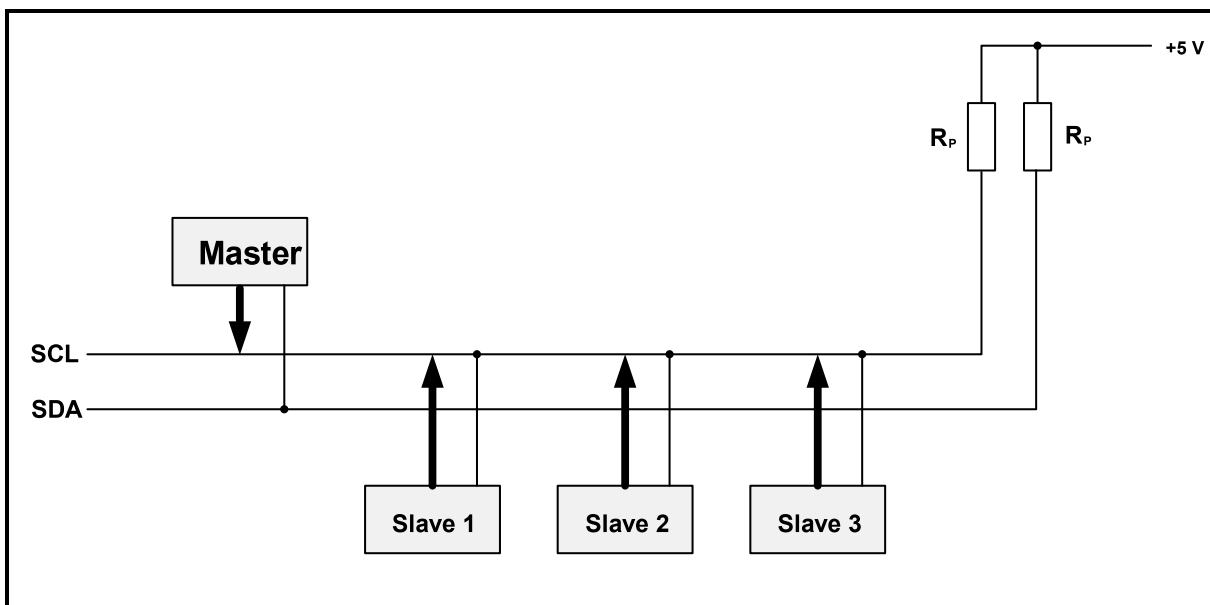

FIGURE 6.7
- 6.7 FIGURE 6.7 below is the block diagram of the I²C bus system. Answer the questions that follow.